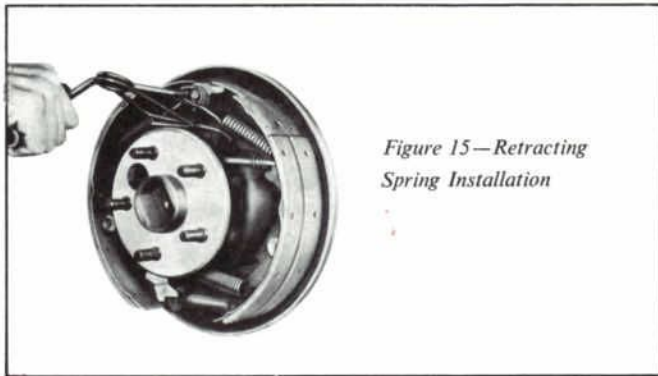

Figure 15—Retracting Spring Installation
6. Install the primary shoe to anchor spring (Fig. 15).
8. Install the secondary shoe to anchor spring with the tool shown in Fig. 15.